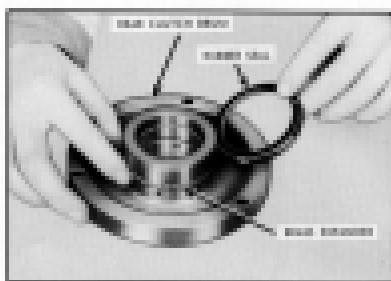

Fig. 457. Installing Base Expander
hammer so the clutch drum will snap back into place, properly seating against retainer ring. (Fig. 457)
- with lip toward bottom of piston box. (Fig. 457)